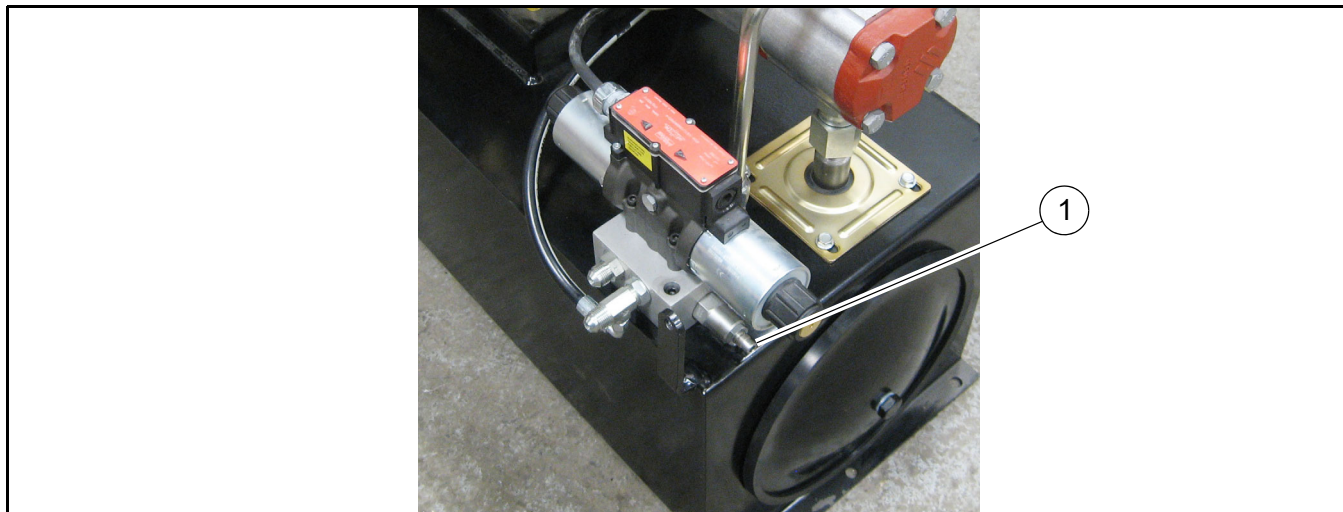

Figure 45
8. Loosen relief valve lock nut (**Figure 45, 1**) and turn relief clock-wise to raise or counter-clockwise to lower as required.